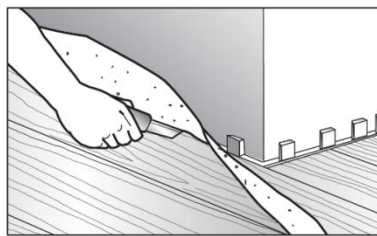

Fig. 18
7. When appropriate, cut the underlayment even with the top of the floor (**Fig. 18**).